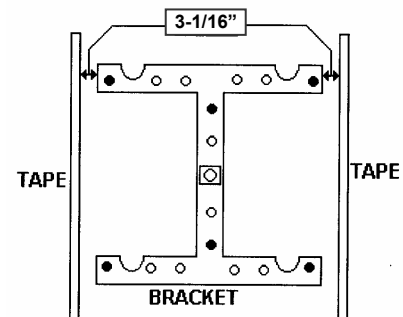

Figure 5-B – Mounting Bracket
4. Place masking tape on the wall where the sides of the jukebox will be when the unit is hung from the bracket. The outside of the jukebox is 3-1/16" from the edges of the wall bracket. (See Figure 5-B).